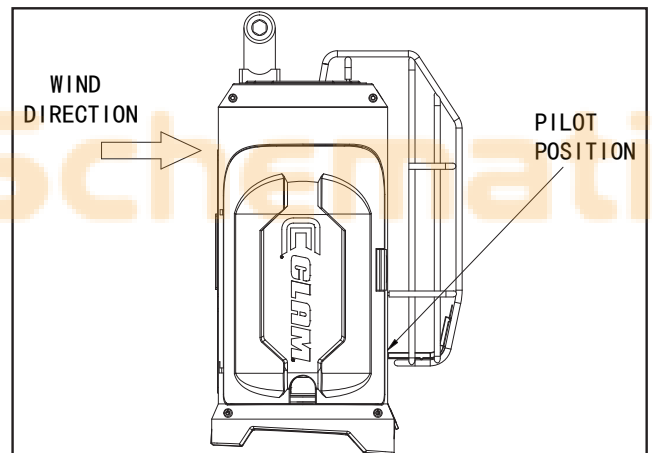

Fig. 4 - Lighting in Windy Areas
1. Position the heater such that the Pilot is opposite the direction that the wind is coming from. See figure 4